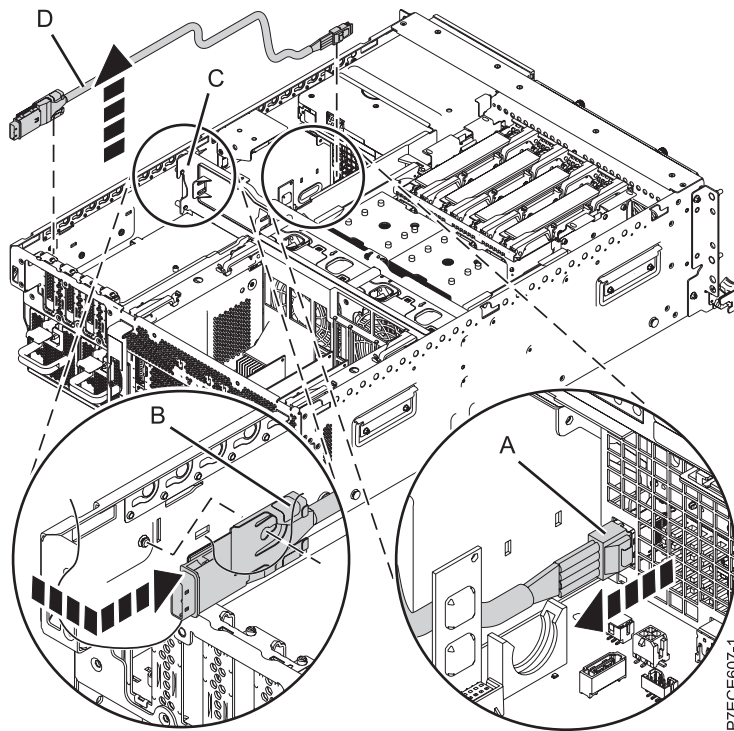

Figure 56. Removing the external SAS port
10. Press the side tab and pull out the SAS shroud (A) from the external SAS connection port on the disk drive backplane, as shown in Figure 56 on page 87.
11. Push the SAS connection port down (B) and then pull out the SAS cable (D) from the system backplane.
12. Pull out the SAS cable (D) from the center brace (C) and out of the system.